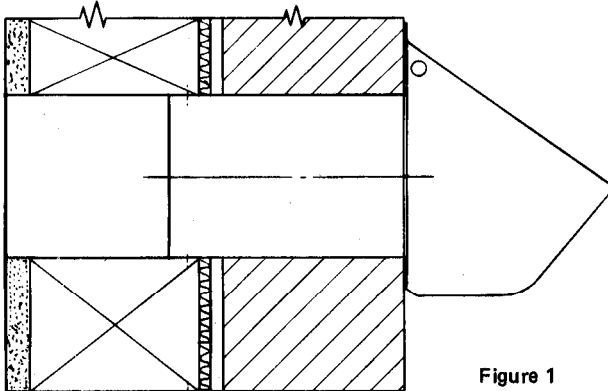

Figure 1
2. Determine thickness of final wall and adjust wall cap and duct so that cap will be flush with face brick. (Fig. 1)
3. Determine thickness of final wall and adjust wall cap and duct so that cap will be flush with siding. (See Fig. 1)